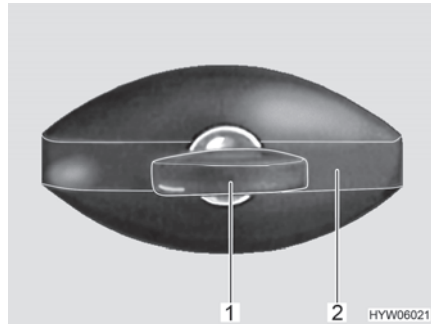

Fig. 33 Flap lock (elliptical-shaped, closed)
- Insert key into locking cylinder (Fig. 33,1) and turn a quarter turn in an anticlockwise direction. The lock handle (Fig. 33,2) snaps out.